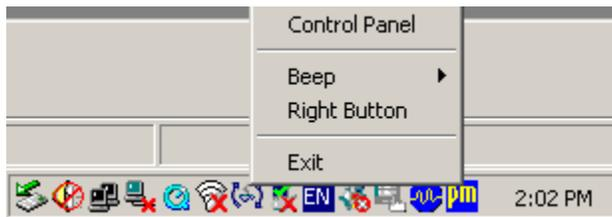

Figure 7-23: PenMount Monitor Popup Menu
Step 3: Click the icon. A pop up menu appears. See **Figure 7-23**.
Step 4: Click Control Panel in the pop up menu shown in **Figure 7-23**.